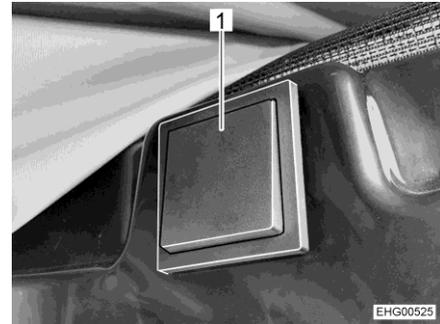

Fig. 32 Push button for electrical release
The push button for the electrical release (Fig. 32) is located on the right-hand side in the area above the sliding door.
- Press and hold the push button (Fig. 32,1) for least 2 seconds.